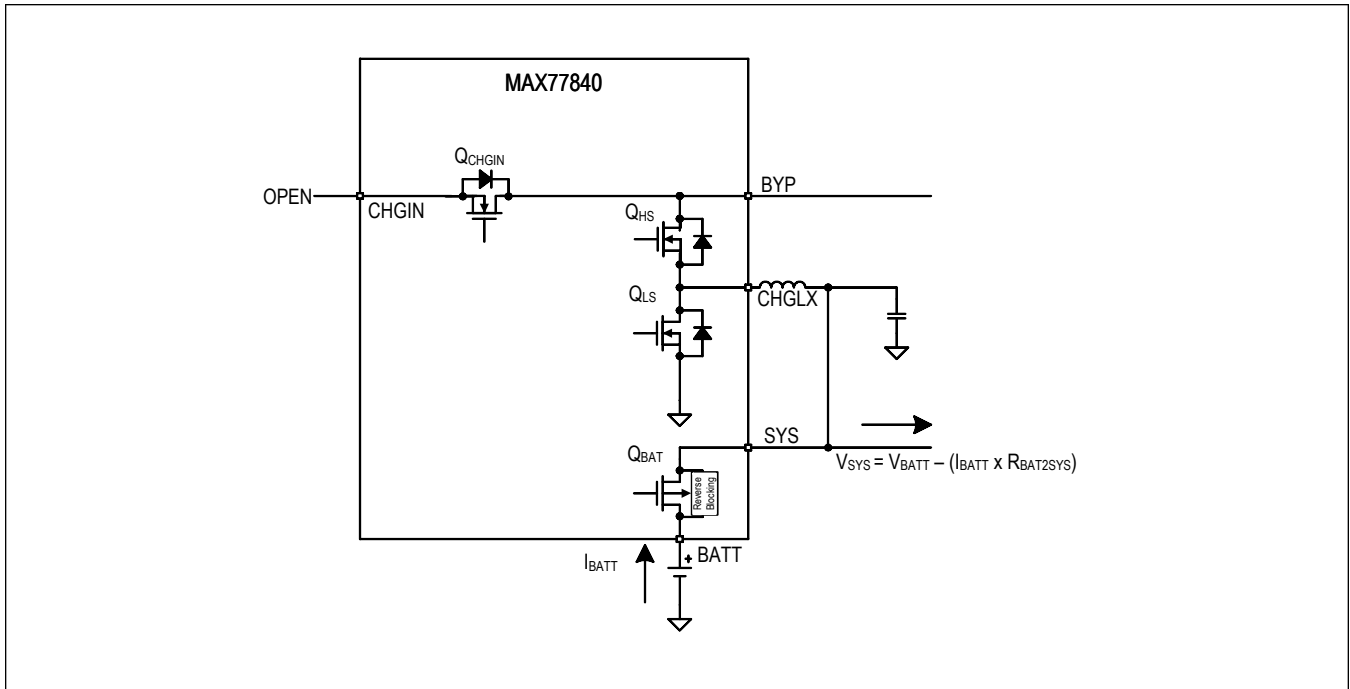

Figure 4. Battery-Only
2. BATTERY-ONLY, *MODE = 0x00*: The adapter voltage is invalid, outside the input voltage operating range (QCHGIN = off). Battery is connected to power the SYS load (QBAT = on), and Boost is ready to power OTG (Boost = standby), see Figure 4.